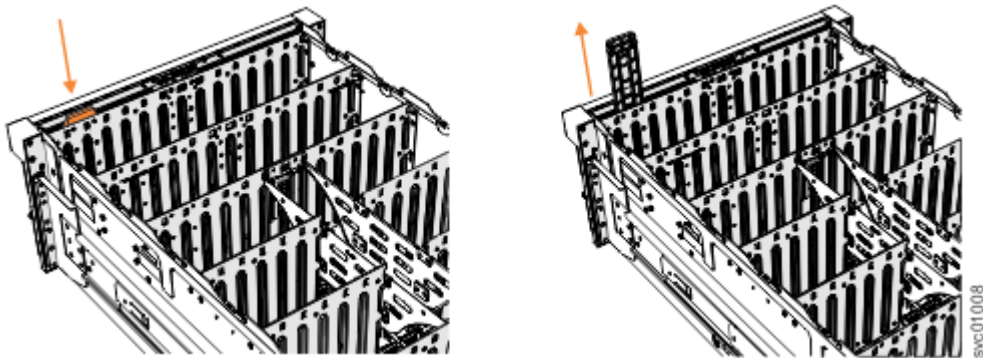

Figure 151. Removing the display panel assembly
3. Press the release tab at the top of the display panel assembly, as shown in Figure 151 on page 196.